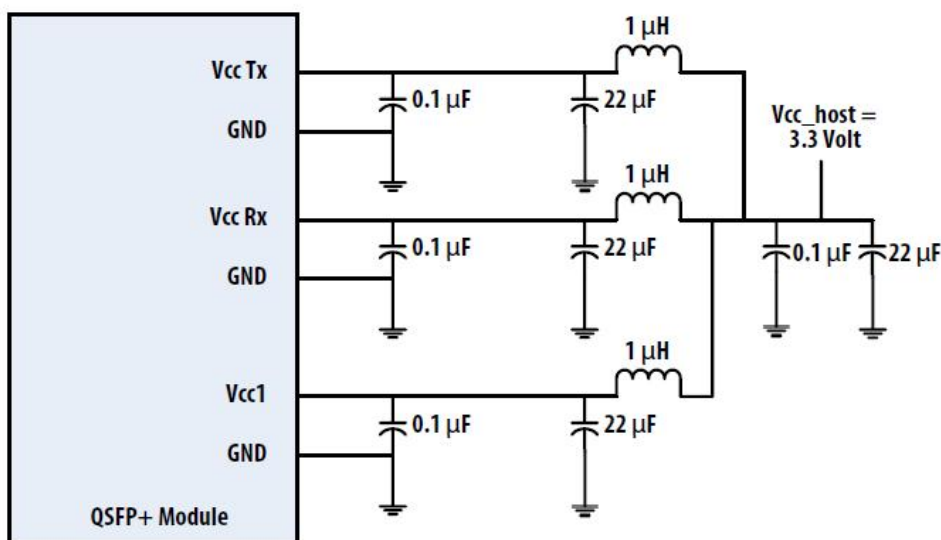

Figure 3. Recommended Power Supply Filter
2. VccRx, Vcc1 and VccTx are the receiving and transmission power suppliers and shall be applied concurrently. Recommended host board power supply filtering is shown in Figure 3 below. Vcc Rx, Vcc1 and Vcc Tx may be internally connected within the module in any combination.